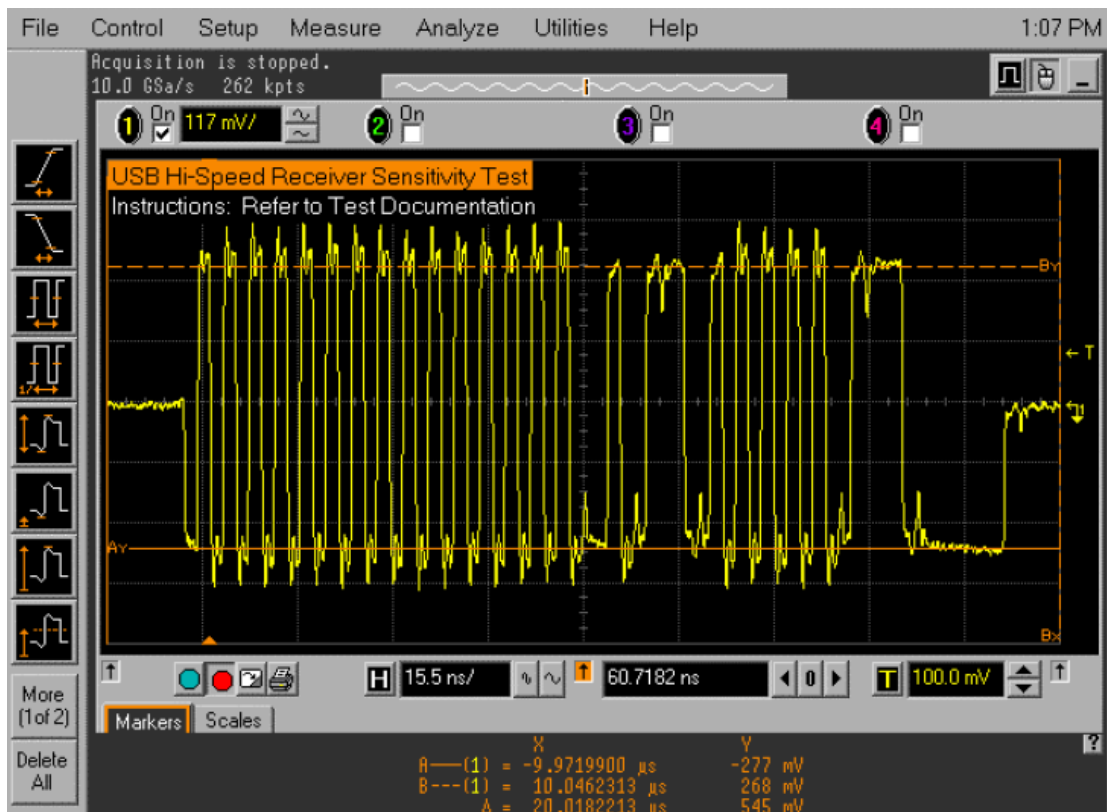

Figure 59. Measuring the packet amplitude
12. Verify that all packets from the data generator are **NAK**'d by the port under test as shown in Figure 59.